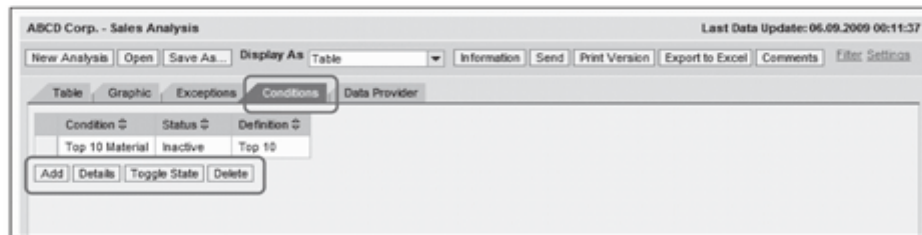

Figure 10.59 Analysis Settings: Conditions
- ▶ **Conditions:** This tab lists all conditions defined on the data provider (Figure 10.59). You can add, delete, or edit the details for a condition using the buttons provided here. The Toggle State button is used to switch the selected condition from active to inactive, or vice versa.